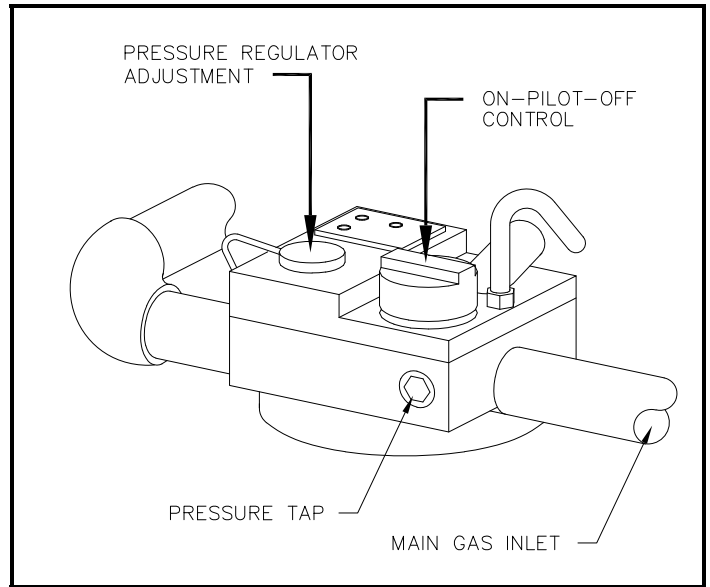

Figure 2-5
2. Check gas pressure at the gas valve with a manometer. (See Figure 2-5.) Most gas valves have pressure taps for this purpose. Adjust gas pressure to the value shown on rating plate of the water heater.